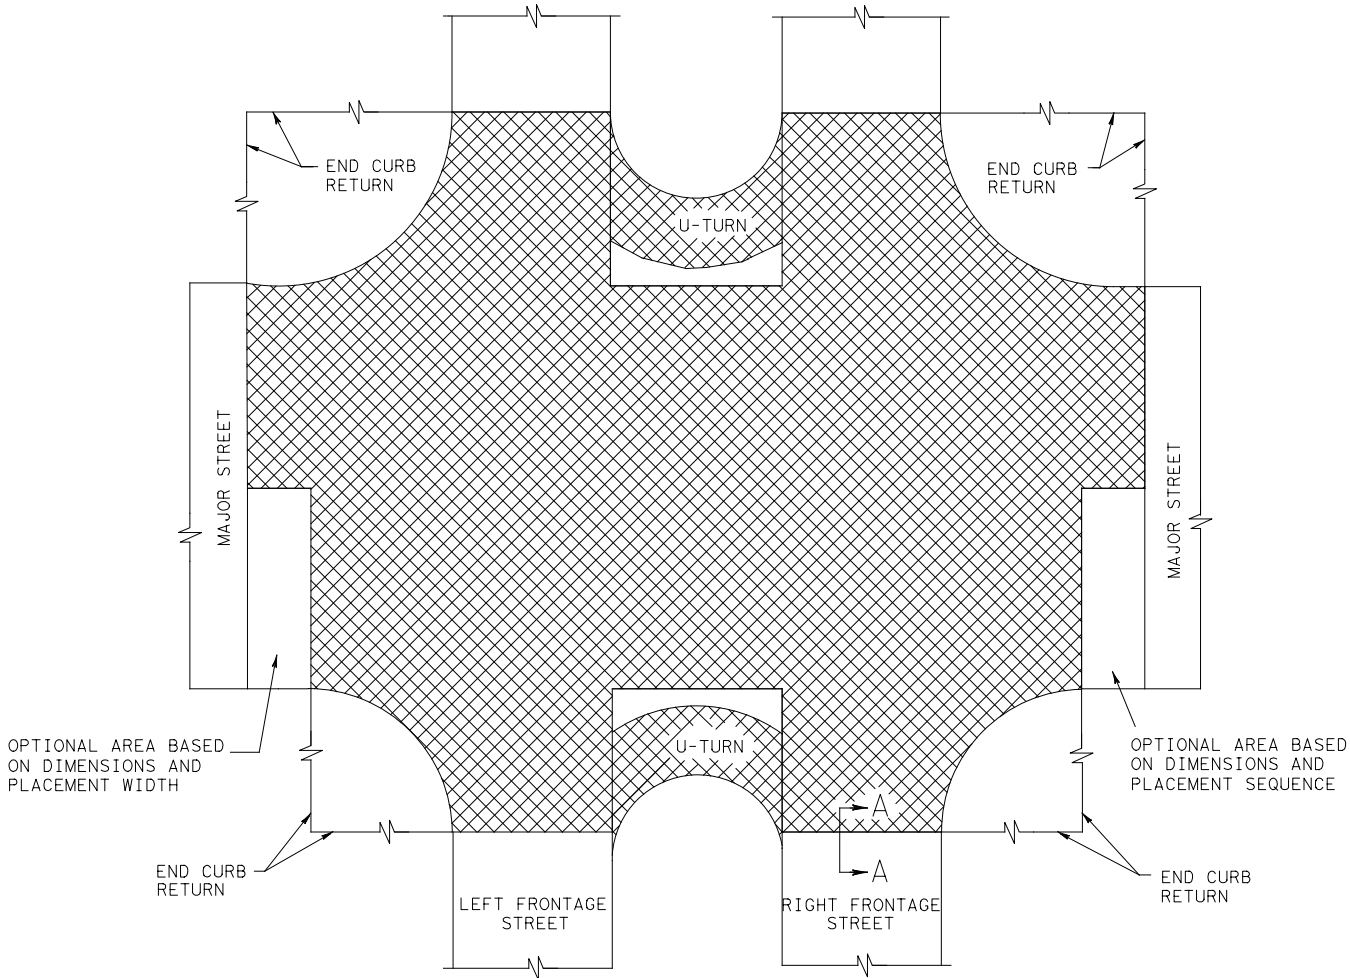

FIGURE 2
3. THE REQUIRED FAST TRACK PAVING AREAS WILL BE SHOWN ON THE PLANS. THE CONTRACTOR HAS THE OPTION TO UTILIZE FAST TRACK CONCRETE PAVING AT U-TURNS, AT INTERSECTIONS, AT MINOR STREETS, AND AT DRIVEWAYS WITH FRONTAGE ROAD LEAVE-OUT AREAS THAT ARE NOT SHOWN ON THE PLANS, WITH PRIOR WRITTEN APPROVAL FROM THE ENGINEER. TYPICAL PAVING PLANS FOR THE INTERSECTION OF A MAJOR STREET WITH THE FRONTAGE ROAD ARE SHOWN AS FIGURE 2, AND FOR THE INTERSECTION OF A MINOR STREET OR DRIVEWAY WITH THE FRONTAGE ROAD AS FIGURE 3. FAST TRACK PAVE THE FRONTAGE ROAD FOR THE FULL FRONTAGE ROAD WIDTH AND PLACE IN STAGES AS REQUIRED.
4. USE ADDITIONAL #6 REINFORCING STEEL BARS (MINIMUM 42 INCHES LONG) AND SPACE THEM MIDWAY BETWEEN ALTERNATE LONGITUDINAL BARS ALONG THE TRANSVERSE CONSTRUCTION JOINT FORMED AT THE FAST TRACK PAVING INTERFACE (T_{FS}) WITH THE ADJACENT PAVEMENT SLAB (T).